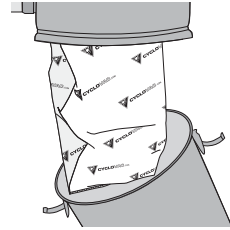

figure 11
1. To access the bag, unlatch the two clips and remove the dust receptacle (**figure 11**).